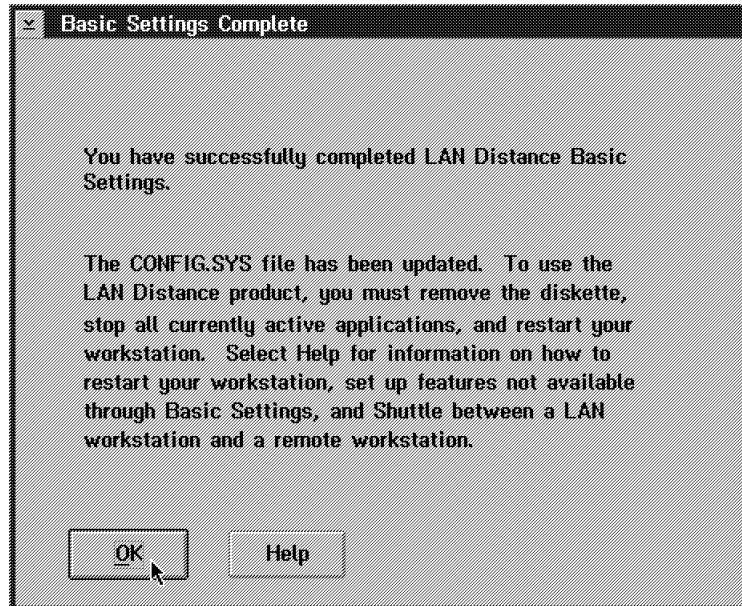

Figure 145. Installation Complete Window
13. The installation and Basic Settings are now complete and the Basic Settings Complete window in Figure 145 is displayed: